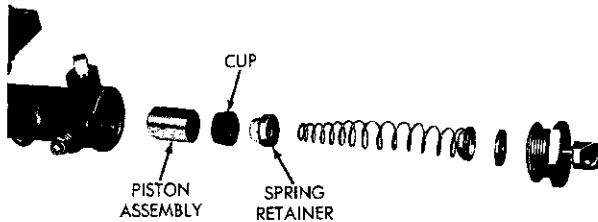

Fig. 41—Slave Cylinder
(6) Using a 1 $\frac{3}{16}$ " socket unscrew the end cap from the front end of the slave cylinder housing. Remove and discard the copper washer that serves as a seal between the end cap nut and the slave cylinder housing. Remove and discard the rubber washer inside the end cap. This washer serves as a seat for the residual check valve. Remove the piston return spring and residual check valve from the slave cylinder bore and discard the check valve (Fig. 41).